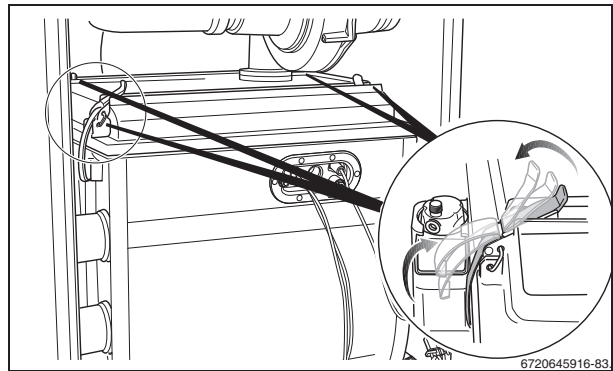

Fig. 82 Opening the retaining clips
- Carefully open the 4 snap retaining clips on the burner cover (fig. 82). The retaining clips may be under tension.